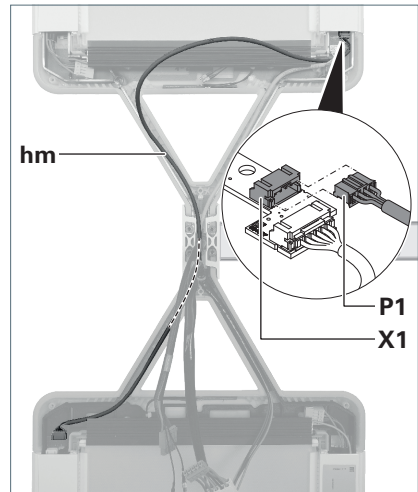

Fig. 18: Connecting the control cable.
7. Lay the control cable **hm** of the stranded wire set further, into the supporting arm of the luminaire head 1, see Fig. 18.